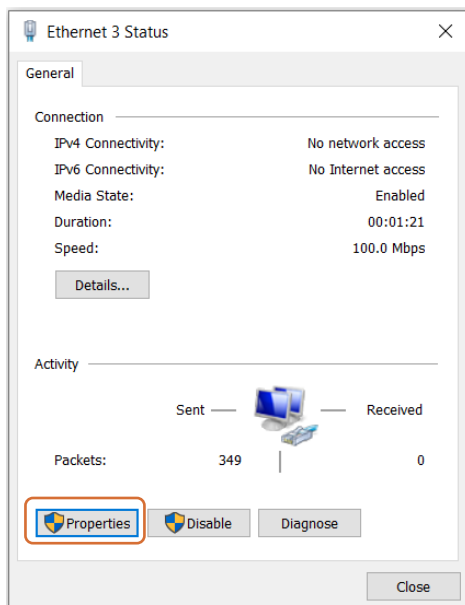
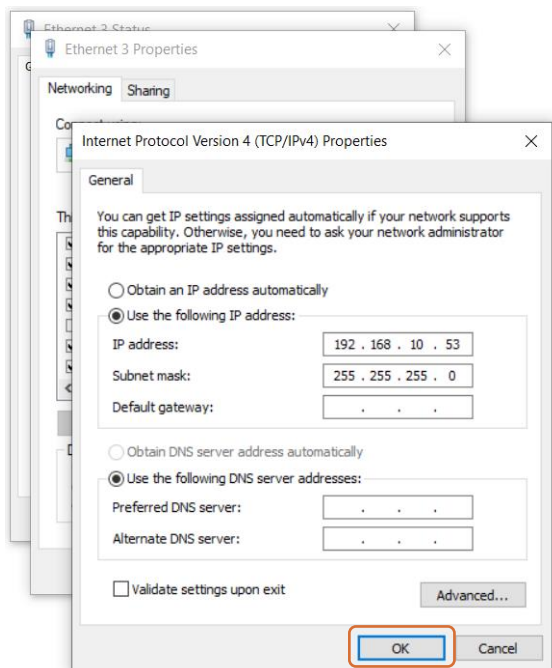

Figure 7: Setting the IP – Ethernet adapter properties
Figure 9: Setting the IP address
2. Click on the correct Ethernet adapter. If you are unsure, unplug the cable and see which connection disappears, and then re-plug. In the window that opens when you click on the Ethernet adapter, you can see the network activity. If there are no received packages, the connection is not yet established. Press “Properties” (see Figure 7).
4. Press “Use the following IP address” (see Figure 9). The IP address differs only on the two last digits of the IP address (using netmask 255.255.255.0) from the IP set on the Temperature Controller. The netmask must be the same as shown in Figure 7. Then press “OK”.